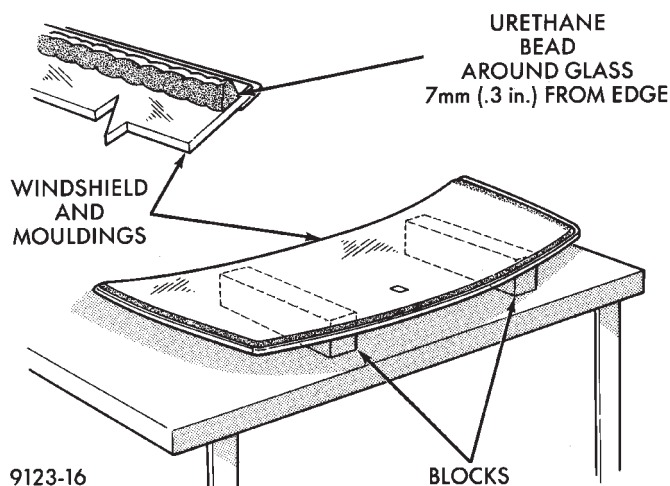

Fig. 4 Work Surface Set up and Molding Installation
(2) Position the windshield inside up on a suitable work surface with two padded, wood 10 cm by 10 cm by 50 cm (4 in. by 4 in. by 20 in.) blocks, placed parallel 75 cm (2.5 ft.) apart (Fig. 4).
(3) Clean inside of windshield with Mopar® Glass Cleaner and lint-free cloth.
(4) Apply clear glass primer 25 mm (1 in.) wide around perimeter of windshield and wipe with clean/dry lint-free cloth.